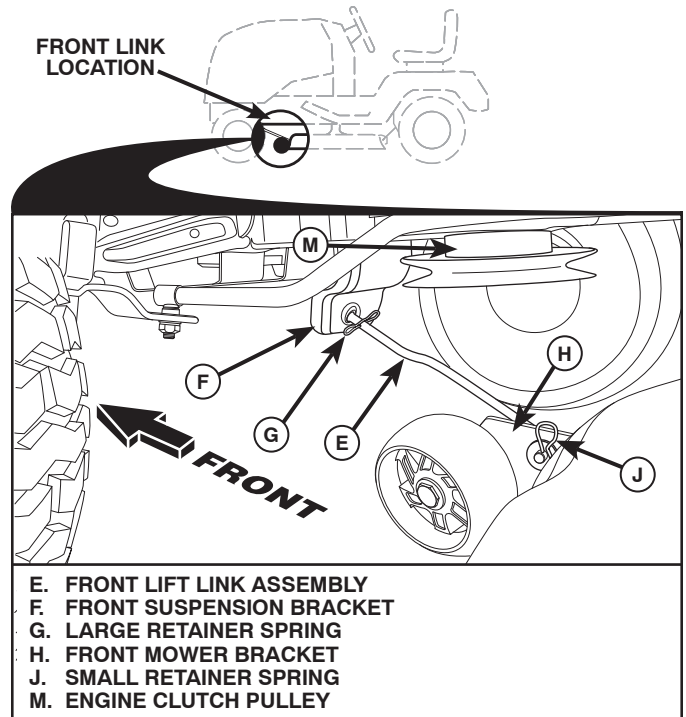

Fig. 35
8 ATTACH FRONT LINK (E) (See Fig. 35)
- From front of tractor, insert rod end of front link (E) through front hole in tractor front suspension bracket (F).
- Move to left side of mower and insert large retainer spring (G) through hole in front link (E) behind front suspension bracket (F).
- Insert other end of link (E) into hole in front mower bracket (H) and secure with washer and small retainer spring (J).